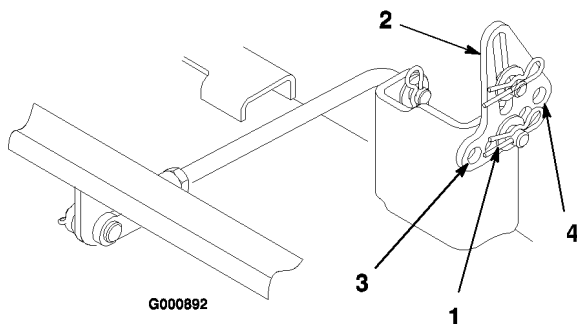

Figure 46
5. Remove the hairpin cotter and washer from the leveling bracket (Figure 46). To level the blade(s), reposition the leveling bracket(s) in a different hole and install the washer and hairpin cotter. (Figure 46). A front hole lowers the blade height and a rear hole raises its height. Adjust both sides as required.